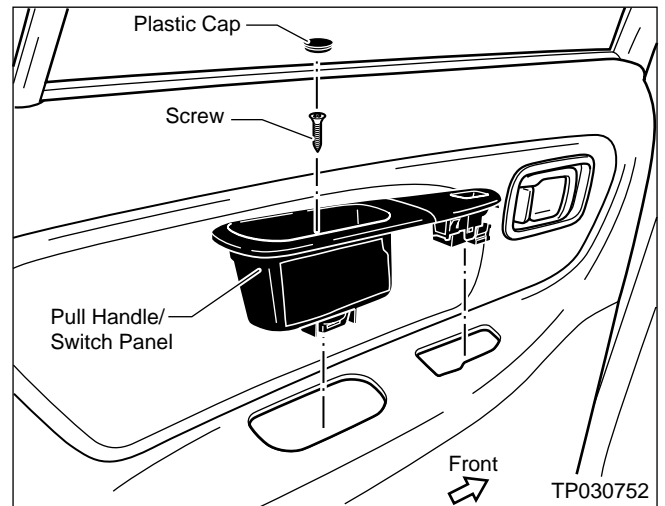

Figure 13
1. Take out the Plastic Cap and the Screw and remove the Pull Handle/Switch Panel (see Figure 13).